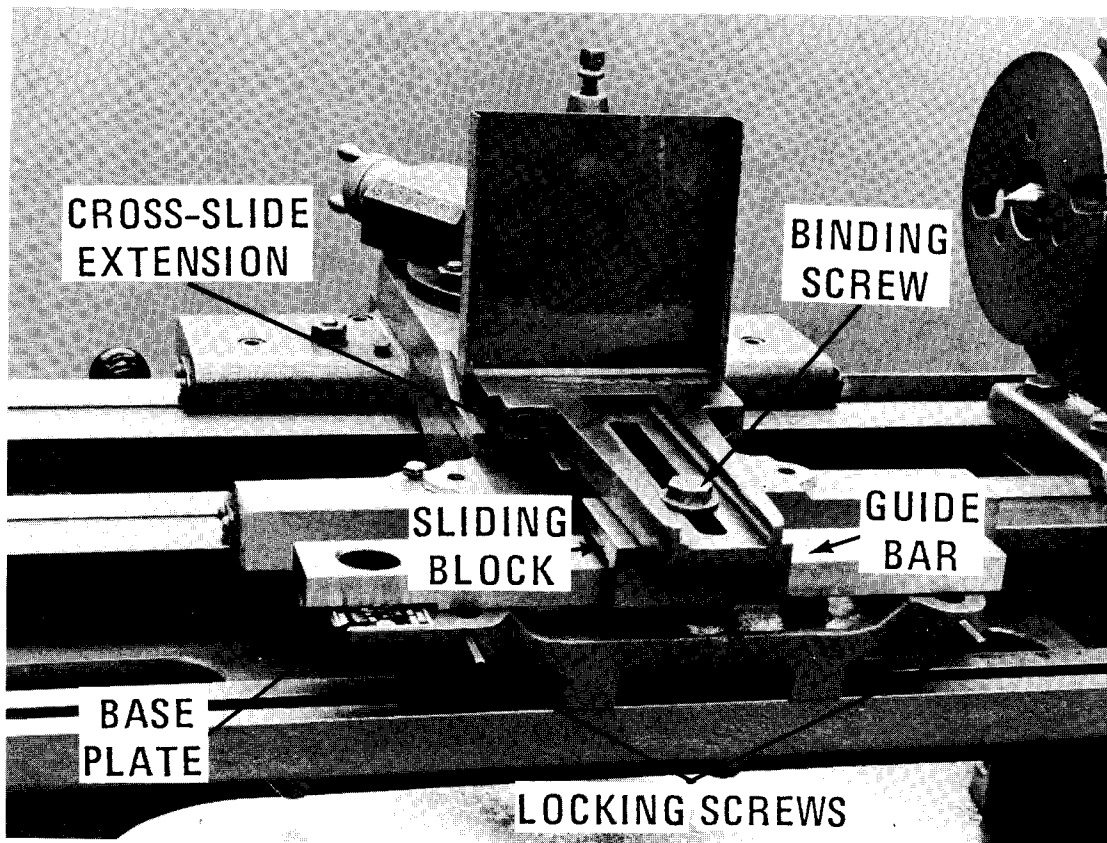

Figure 54-12 The parts of a plain taper attachment.
1. The plain taper attachment (Fig. 54-12)